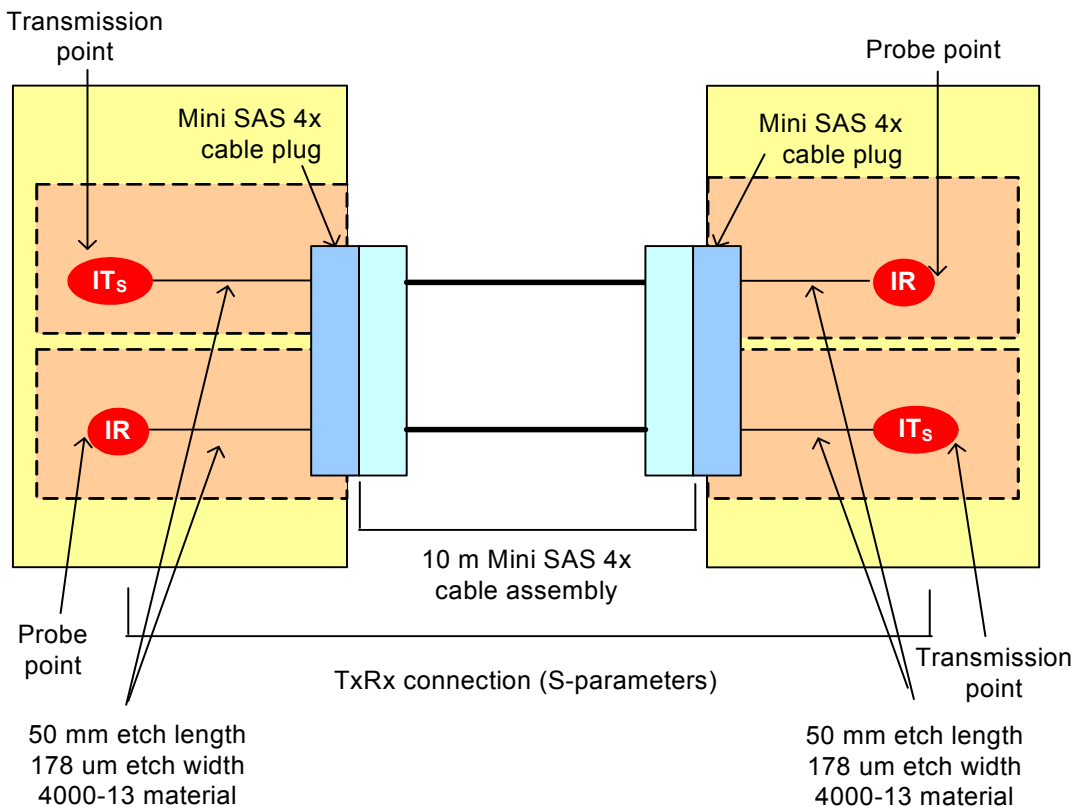

Figure A.1 — S-parameter model of the reference transmitter test load
- a) an etch length of 50 mm with an etch width of 178 μm between the IT_s (see 5.3.6.5.4) and the Mini SAS 4x cable plug (see figure A.1) in 4000-13 material environment;
- c) an etch length of 50 mm with an etch width of 178 μm between the IR (see 5.3.7.4.3) and the Mini SAS 4x cable plug (see figure A.1) in 4000-13 material environment.
The following lists equipment that may be used to replicate the S-parameter model shown in figure A.1: